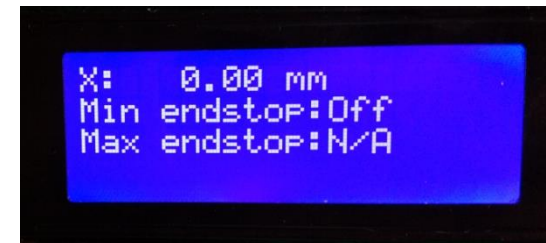

Fig 2: Check end stops state
3. Ensure the motors and the limit switch work normally (**Fig 2**)